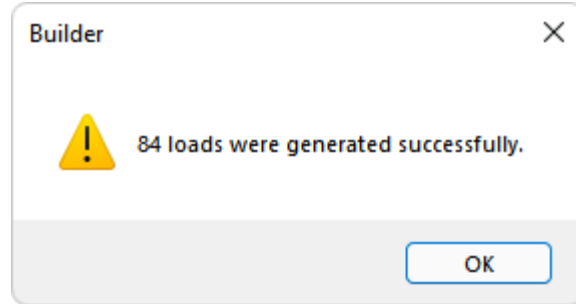

FIGURE 8-9
- The message box, as shown in **FIGURE 8-9**, will pop up letting the user know how many line loads have been created. Each side of each slab will have a separate line load created. Click *OK*.